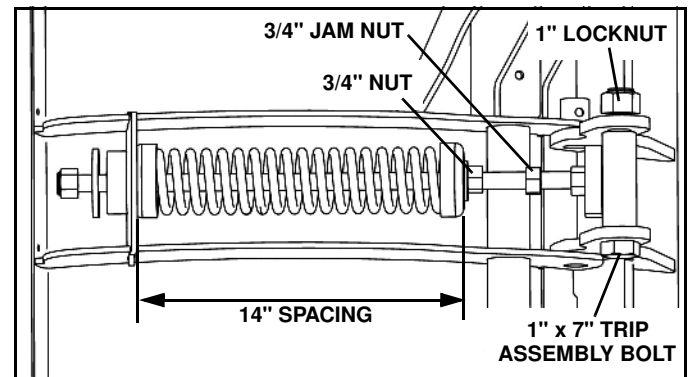

Figure 3-2
1. Loosen the 3/4" locknut on the top of the trip rod and the 3/4" jam nut below the lower spring cup. (See Figure 3-2)